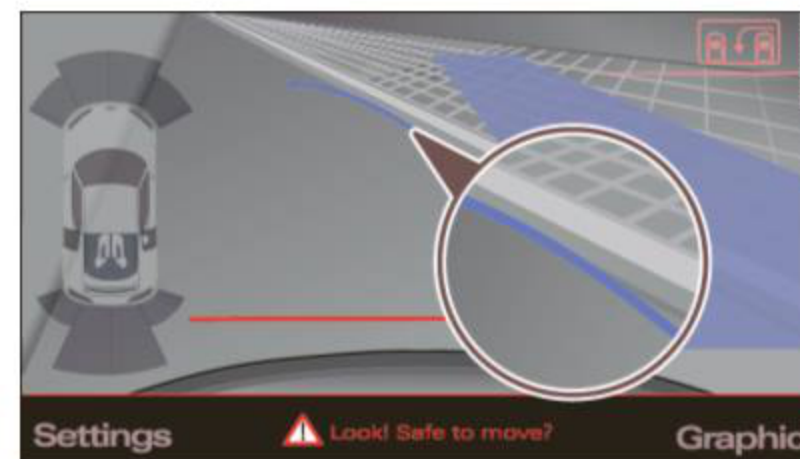

Fig. 79 Navigation system display: The blue curved line contacting the curb
- Back into the parking spot until the blue curve touches the curb ⇒ *page 93*, fig. 79. Stop the vehicle.
- Continue to back into the parking spot until the vehicle is parked parallel to the curb. ③ marks the rear bumper. Stop the vehicle when the red orientation line ④ borders an object ⇒ ⚠. Keep an eye on the front of your vehicle while doing this ⇒ ⚠.
When there is an obstacle (such as a wall) next to the parking spot, choose a spot with more space on the sides. Position the long side of the blue area so that there is sufficient space from the curb. The area must not be on the curb. You will also need to start turning the steering wheel much earlier. There should be a sufficient amount of space between the curb and the blue curve, and the blue curve ⇒ *page 93*, fig. 79 must **not** touch the curb.